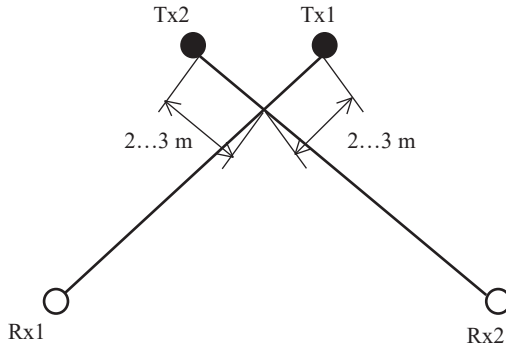

Fig. 2.1
2.2.1. Mark the perimeter area for the places where the supports will be mounted. To generate a continuous protected boundary, the installation of Tx and Rx **isn’t permitted** on adjacent perimeter sectors. The right installation on adjacent perimeter sectors is Tx and Tx, Rx and Rx. To generate the continuous protected boundary, it is necessary to provide the overlapping of the sectors detection zones (see fig. 2.1 and 2.2). The overlapping is necessary to eliminate the possibility of the sector overcoming under or above Tx (Rx) unit near the support.